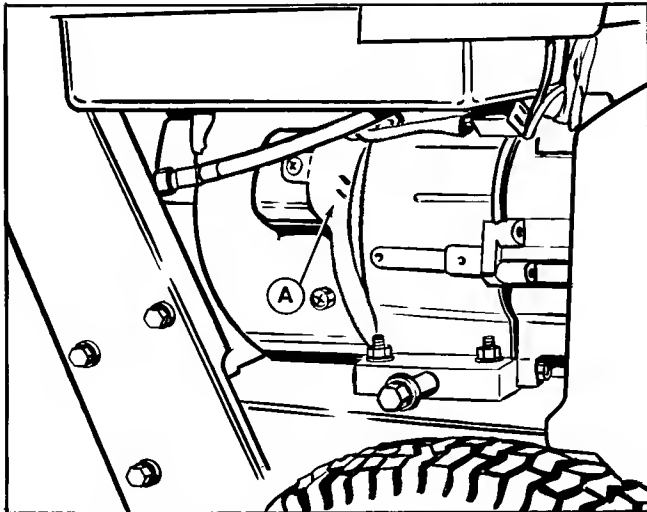
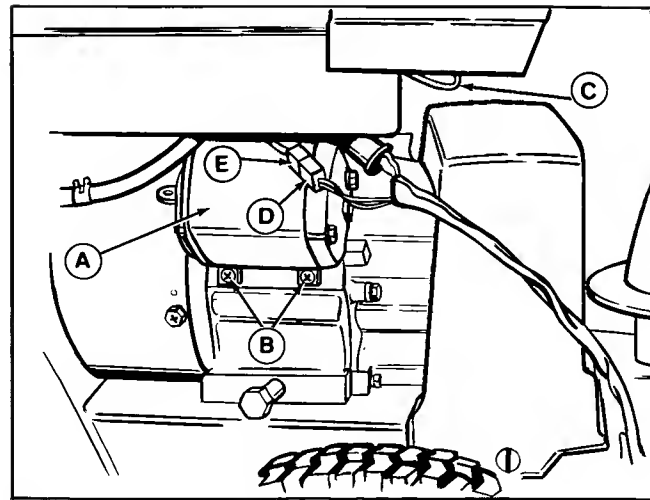

Figure 4. Flywheel Cover
Figure 5.
9. Remove the cover (A, figure 4) by removing a "Phillips" screw to expose the flywheel gear. There are four holes threaded in the engine block. Use these four holes to install the starter motor (A, figure 5) with four screws (B).
12. Connect the wire from the headlight (C, figure 5) to the top terminal of the light switch. (This wire was disconnected from capacitor assembly in last step).
- b. Route the wiring harness over to R.H. side of unit (figure 5).
- d. Connect the wiring harness male connector (D, figure 5) (red and black wires) to the female plug (E) from the engine.